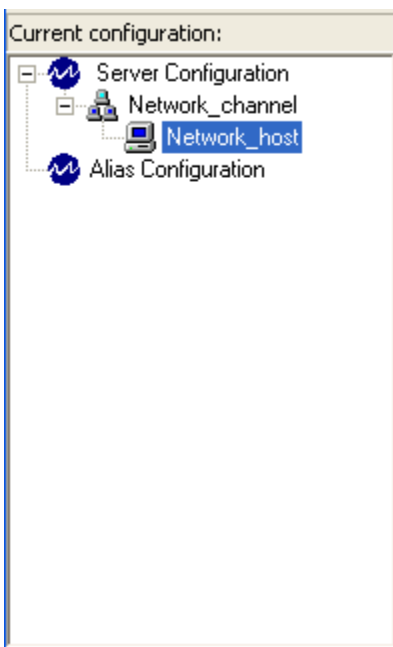

Figure 31 - New Network Host Object
- Click on the **OK** button. The object is created and will appear as a child of the **Network Channel** item as shown in Figure 31.